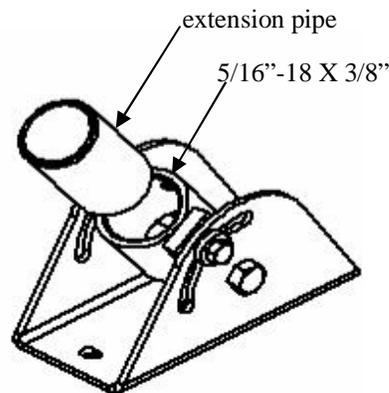

Figure 2. Assembly
4. Install extension pipe in coupler and secure using the 5/16"-18 X 3/8" set screw (see Figure 2).